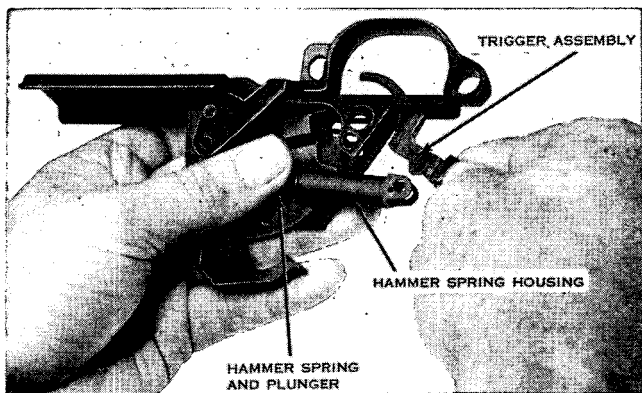

Figure 22. Removing the trigger assembly, hammer spring housing, hammer spring, and hammer spring plunger.
b. Lift out the trigger assembly. Remove and separate the hammer spring plunger, hammer spring, and the hammer spring housing (fig. 22).